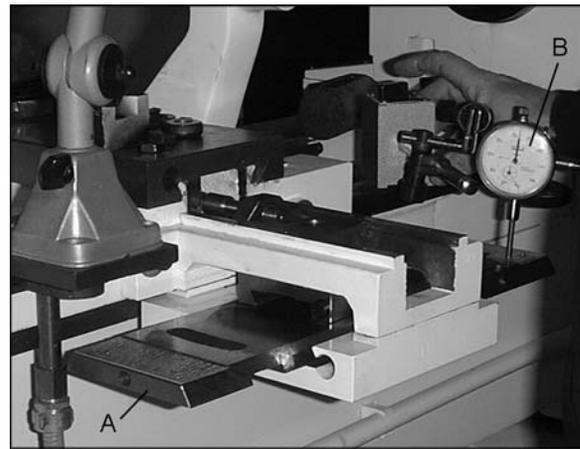

Figure 4
15. Place the longitudinal slide (A, Figure 4) into the main body.
16. Using a dial indicator with a magnetic base (B, Figure 4) attached to the lathe bed, level the longitudinal slide to the bed. The slide assembly is level when it is less than .005" from end to end. Keep the cross slide block centered on the lead screw. Use a rubber mallet, or a dead blow hammer to position the main body so that the cross slide block passes smoothly over the lead screw and that the longitudinal slide is level.